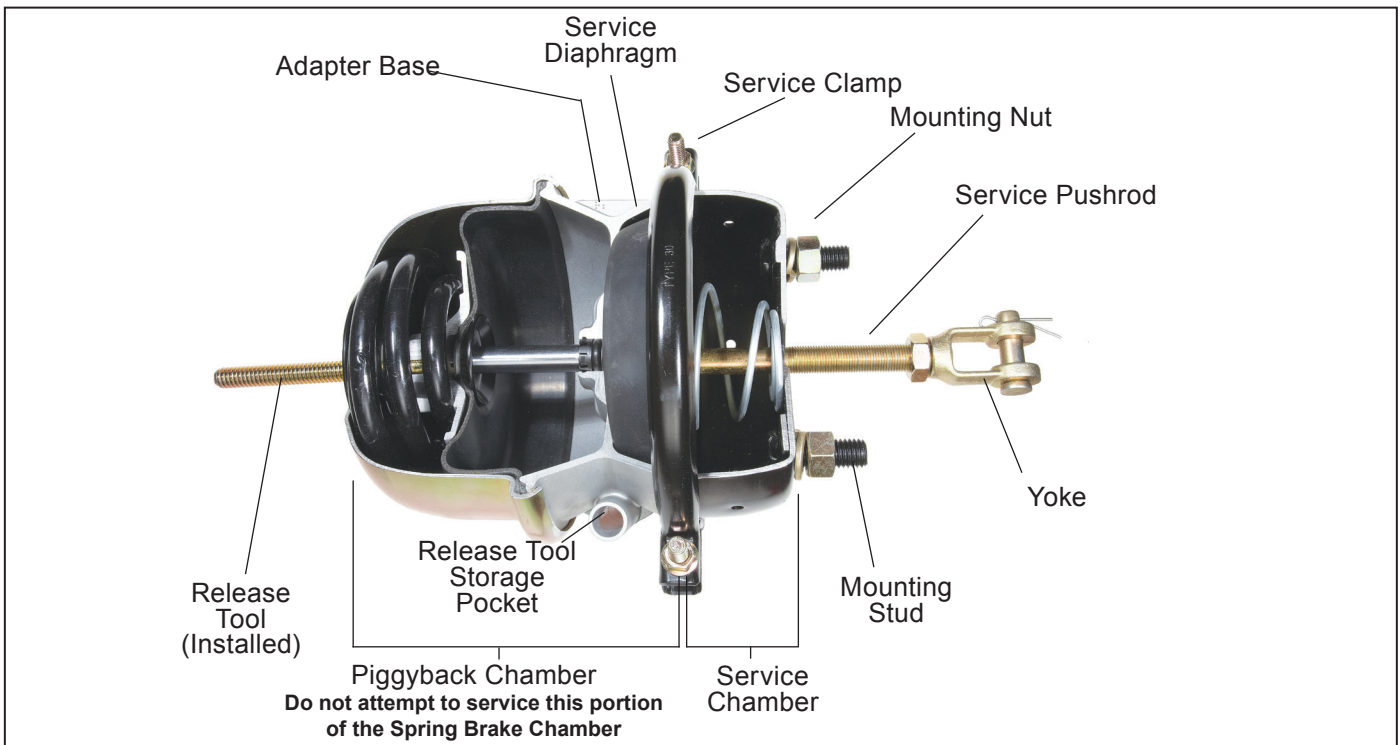

Figure 3 – Spring Brake Chamber Assembly
3. While supporting the spring brake chamber in position, remove and discard brake chamber mounting nuts and washers (*see Figure 3*). Nuts and washers must not be re-used. Remove the spring brake.